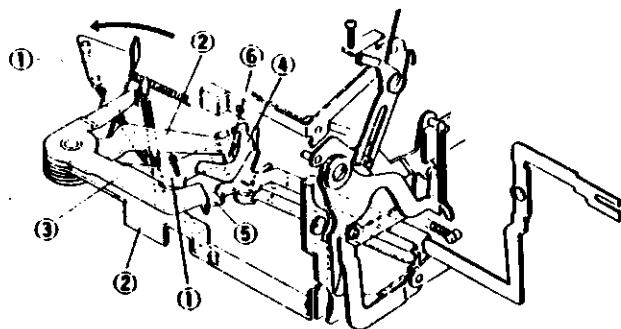

Fig. 7
1. Quick return mechanism (see Fig. 7, 8 and 9)
Then, No. 2 is set in No. 4 while No. 3 is set in No. 5. (Fig. 7)